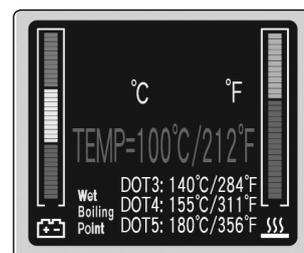

Fig.9
4.8.2. If the tester is working correctly the result will be Temp=100°C/212°F, see fig.9.